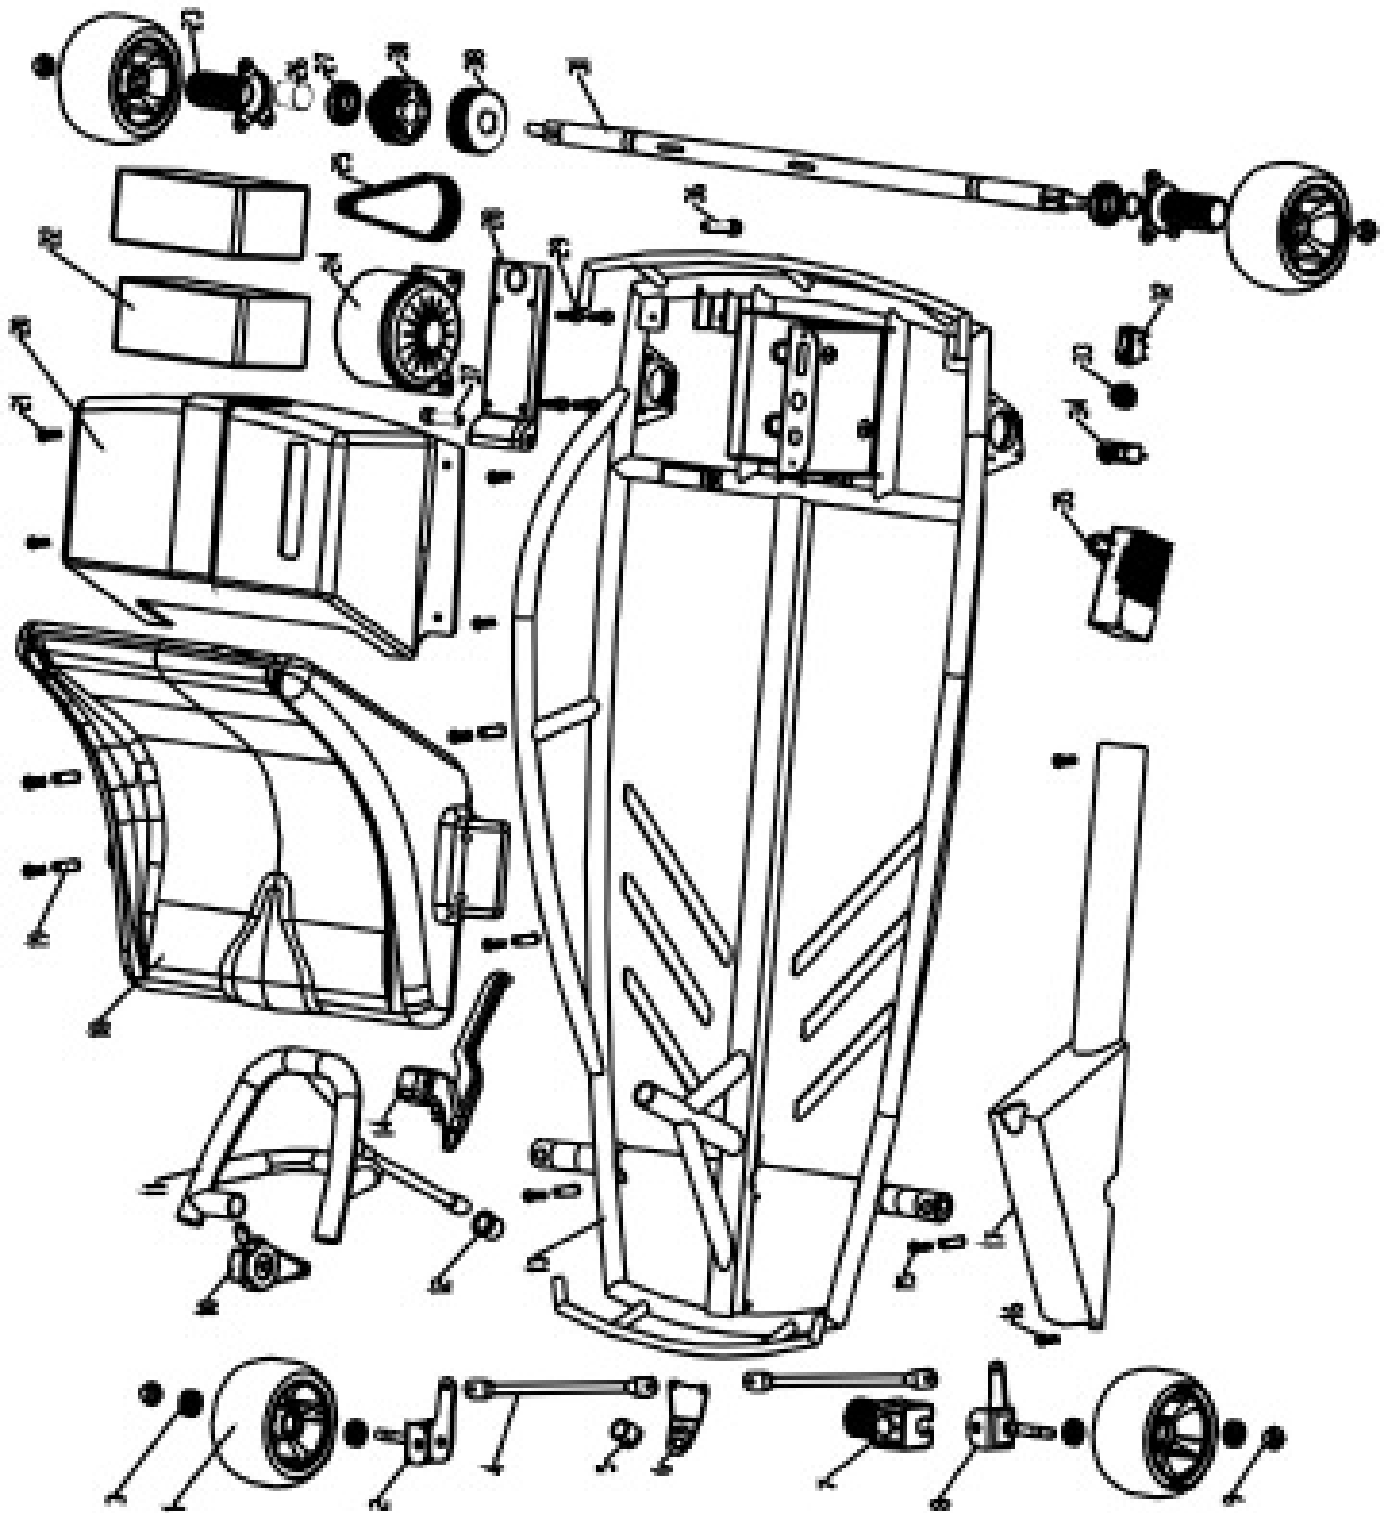

Fig. 14. Illustrated parts breakdown
8. Illustrated Parts Breakdown (Figure 14).